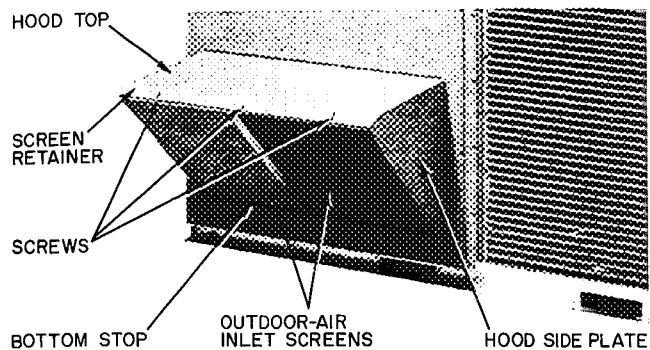

Fig. 15 - Air Hood Details
5. Fasten hood top and side plate assembly and bottom stop (Fig. 15) to unit with screws saved from Step 3.
6. Slide outdoor-air inlet screens into screen track on hood side plate. Using clasp provided, clamp screens together. While holding screens in place, fasten screen retainer to hood using screws provided. (see Fig. 15).
10. Fasten hood top and side plate assembly and bottom stop (Fig. 15) to unit with screws saved from Step 4.